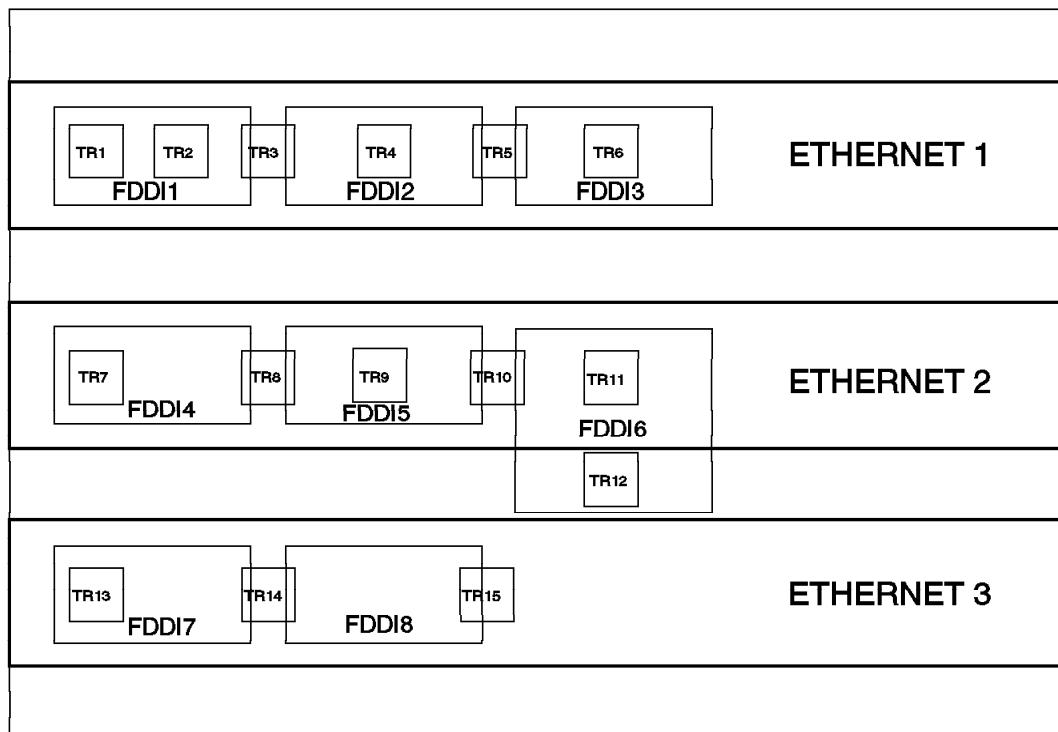

Figure 53. Advanced Backplane Architecture. How do token-ring, Ethernet and FDDI paths affect each other.
Figure 53 shows the the Advanced Backplane Architecture and how it can be used to accommodate multiple networks and protocols. The following is a description of the rules governing the use of the backplane:
11. As can be seen from Figure 53 on page 110, the distribution of token-ring, FDDI and Ethernet paths over the backplane and the effects of their use on the other networks are uneven. For example, when you use `Ethernet_1`, you will lose the ability to utilize 6 token-ring paths (TR1 through TR6) and 3 FDDI paths (FDDI1 through FDDI3). On the other hand, the use of `Ethernet_3` will